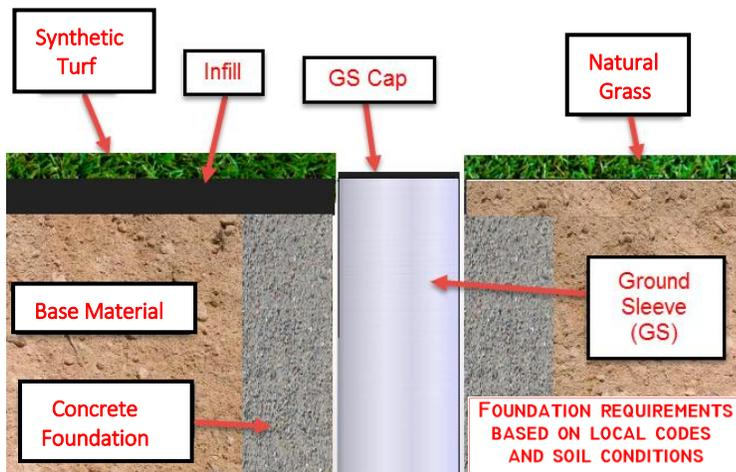

Figure 4 - Ground Sleeve Depth Reference (Section View)
3. Center the ground sleeves in the concrete forms with rebar cages (if applicable) and secure them in a plumb position. The top of the ground sleeve should be flush with the finished grade as shown in *Figure 4*.